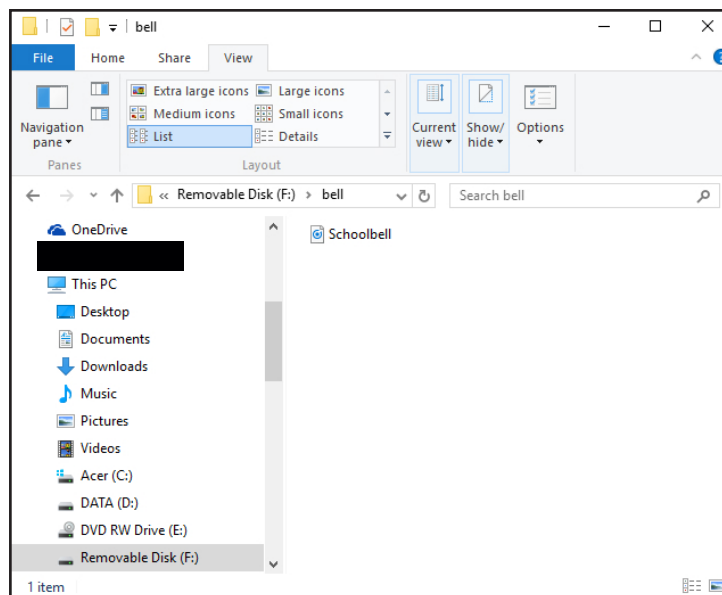

Fig 2.2
**Step 3:** Open the folder to change, in our example the “Bell” folder, and you should get a window that looks like figure 2.2.